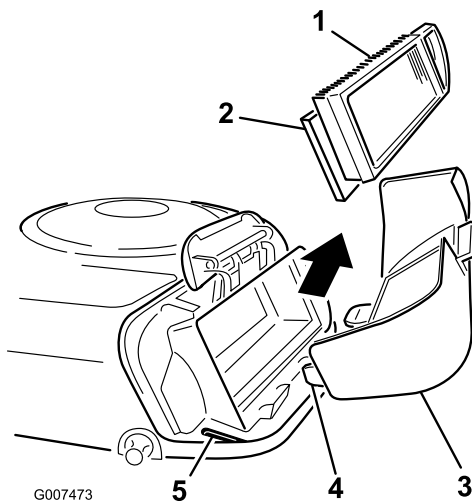

Figure 25
5. Carefully slide the paper element and foam element from the blower housing (Figure 25).
2. Align the tabs on the air cleaner cover with the slots of the blower housing (Figure 25).